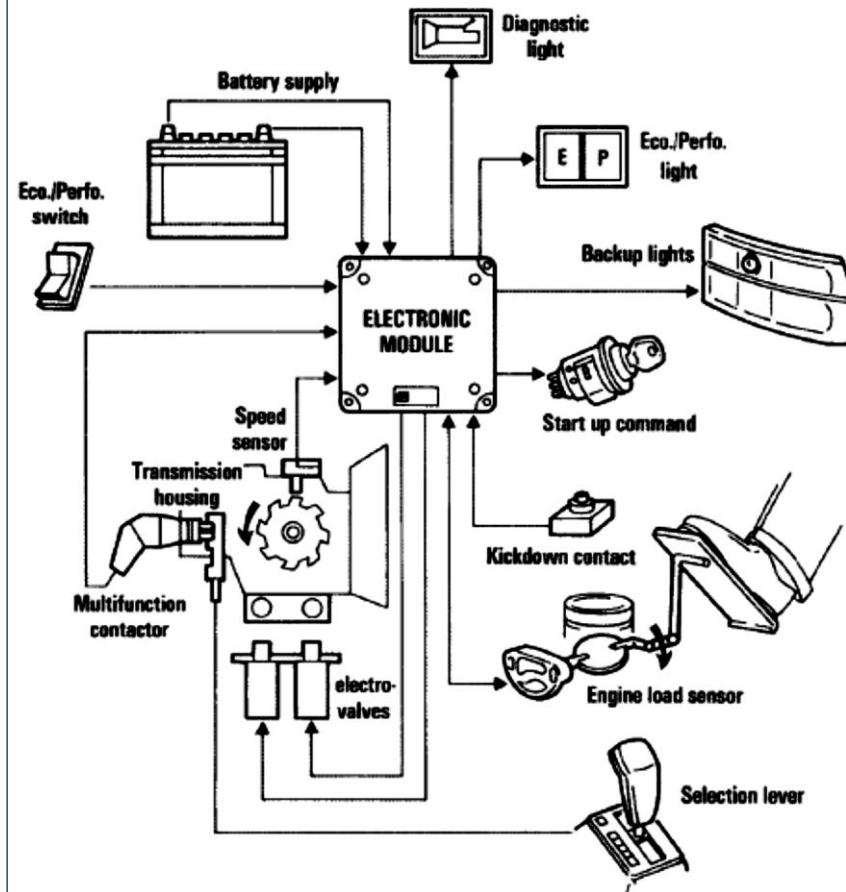

Fig. 2.2 A computer controlled transmission system
- Figure 2.2 shows a computer controlled transmission system. At the heart of the system is an electronic module.